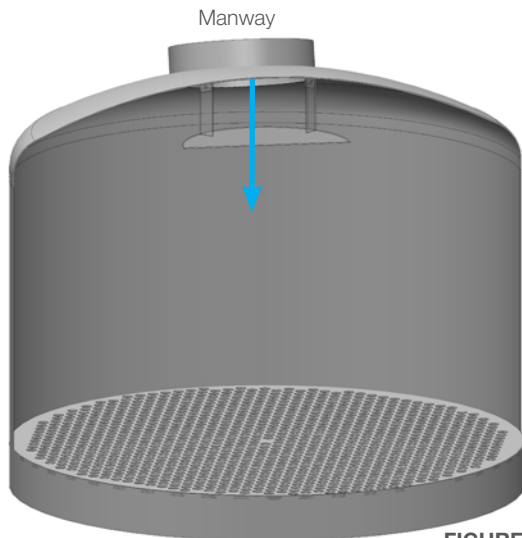

FIGURE 25
3. Hand the Spider Plate Assembly through the Manway to someone positioned inside the Domed Bundle. **(Figures 25 & 26)**